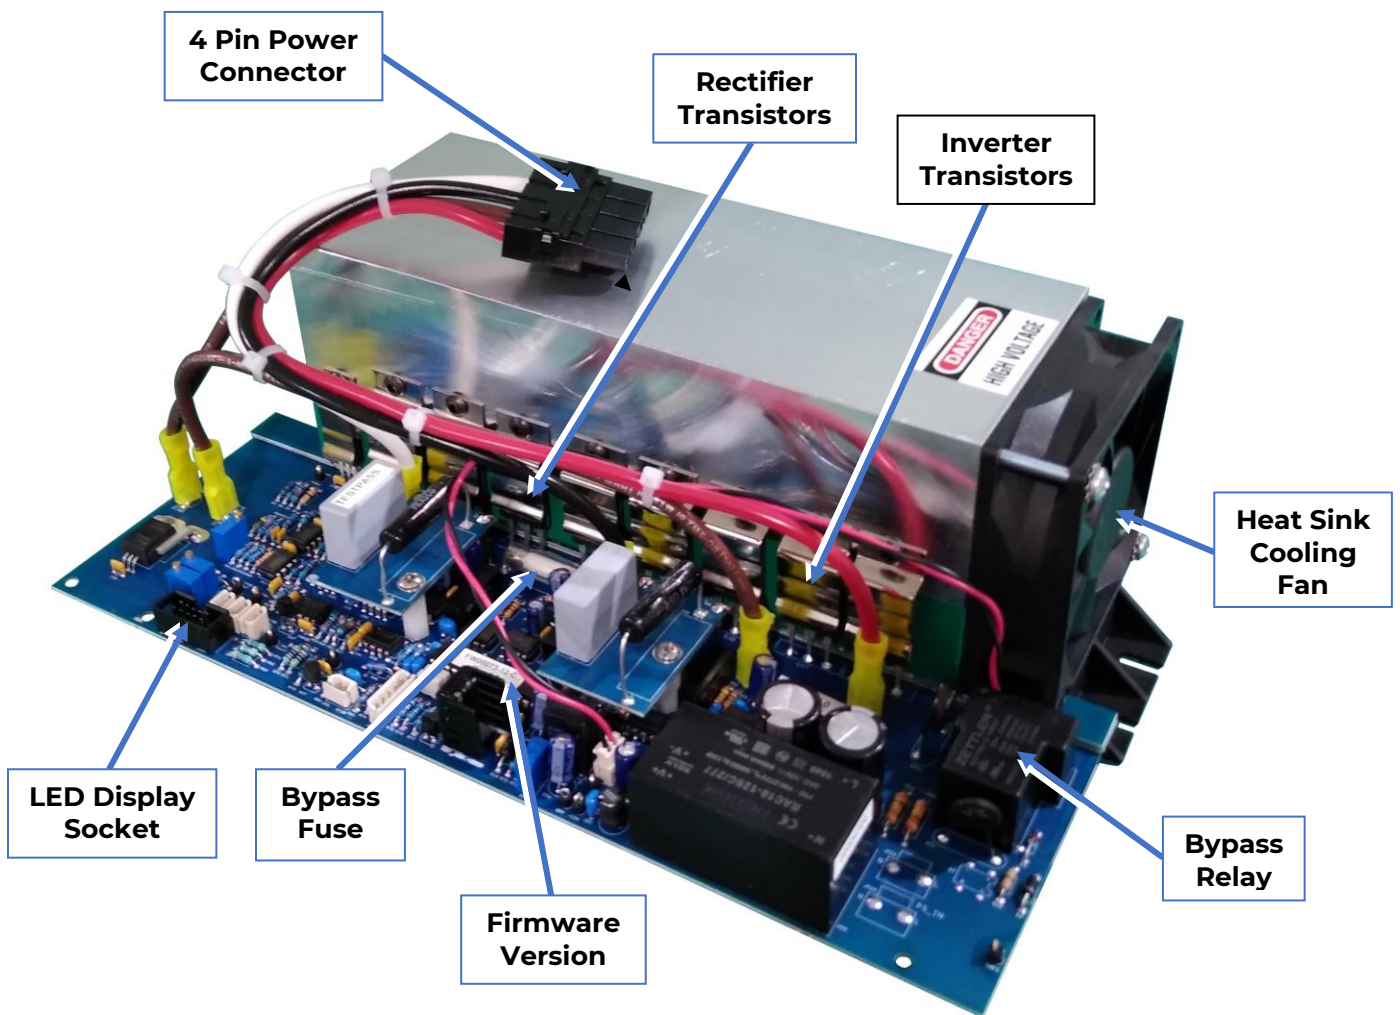

Figure 11: PZ00073 Main Control Circuit Board Assembly Shown
2.3 CONTROL CIRCUIT BOARD ASSEMBLY -See Figure 11
The proprietary voltage regulation control board is powered by a DSP microcontroller. The Control Board's Firmware Version is located on a label affixed to the microcontroller (see Figure 11). It senses the incoming mains voltage and corrects the output continuously. It incorporates advanced algorithms to ensure the fastest possible response time while maintaining control loop stability.